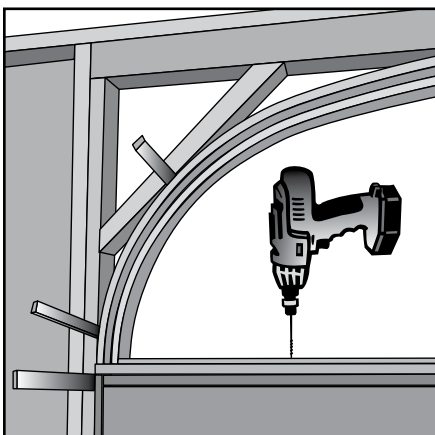

Fig. 36
D. Fasten transom jamb to head jamb with 1-1/4" screws into pilot holes **(Fig. 36)**.